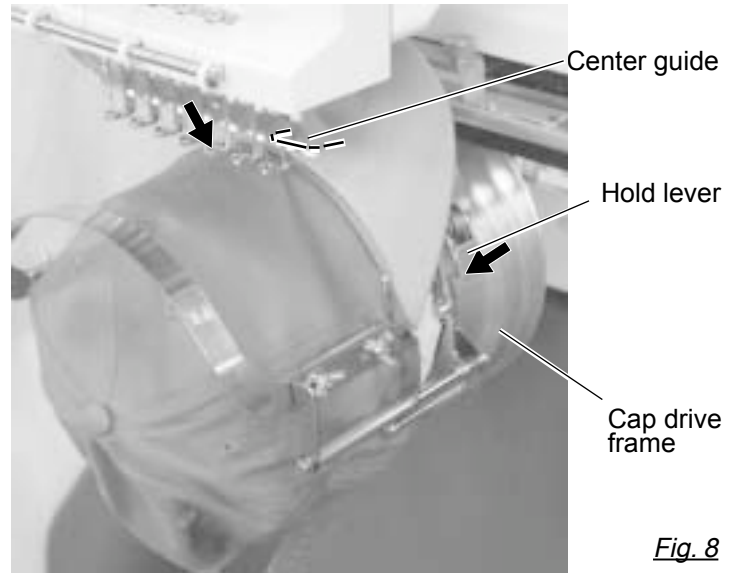

Fig. 8
8. As shown in Fig. 8, place the cap frame on cap the drive frame.